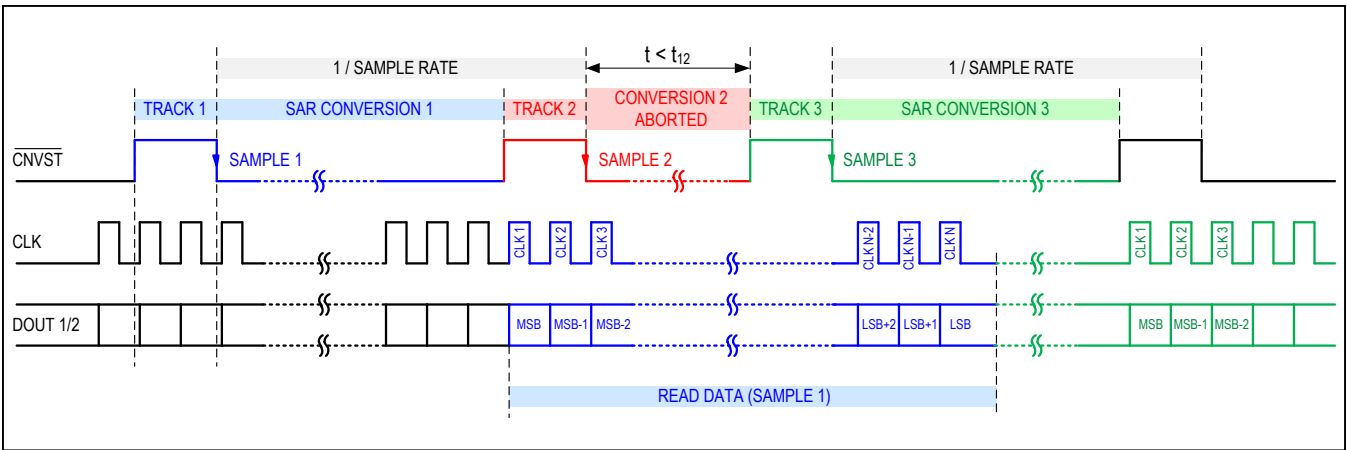

Figure 10. Conversion Abort Data Read
Figure 10 is a graph showing the transfer characteristic of the AD7714. The vertical axis is labeled "OUTPUT CODE (TWO'S COMPLEMENT)" and the horizontal axis is labeled "DIFFERENTIAL ANALOG INPUT (LSB)". The graph shows a staircase-like transfer function with a break in the middle. The output code ranges from 100...000 to 011...111. The input range is from -2^N to 2^N , with a full-scale range of $2 \times V_{REF}$. The graph shows a staircase-like transfer function with a break in the middle. Key points include the Zero Scale at $V_{IN} = -V_{REF}$ and the Full Scale (FS) at $V_{IN} = +V_{REF}$. The output code at FS is 011...111, and the output code at $-1.5 \times \text{LSB}$ is 011...110.